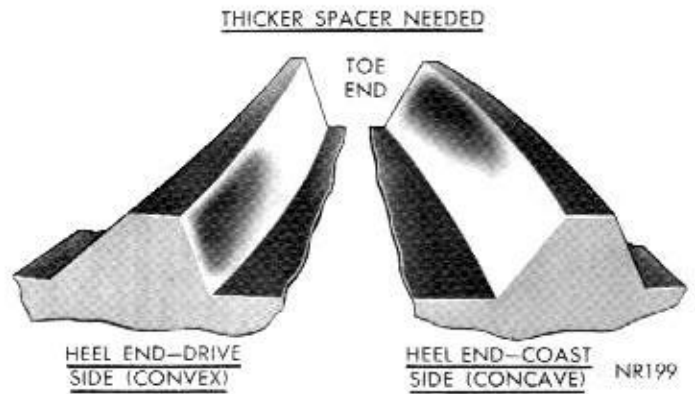

Fig. 45—Incorrect Tooth Contact Pattern (Increase Shim Pack Thickness)
(3) If after observing the contact pattern and you find it resembles that in (Fig. 45), the drive pinion